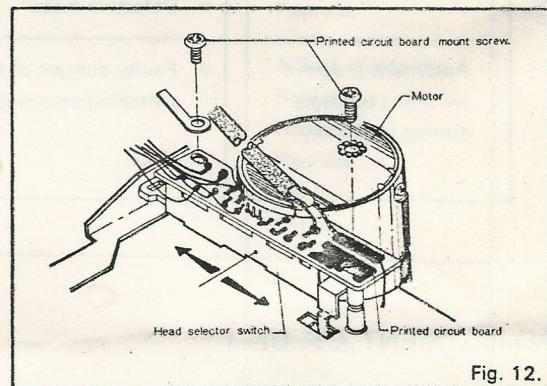

Fig. 12.
* Adjustment of the head selector switch (Refer to Fig. 12)